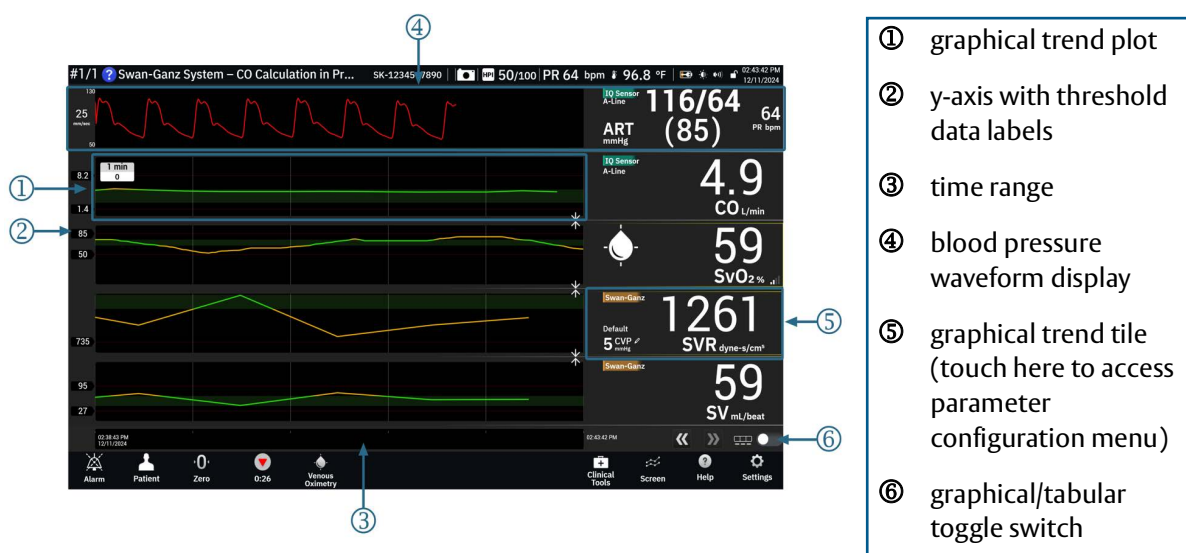

Figure 4-3 Graphical trend screen
The main features of the graphical trend screen are outlined in figure 4-3 and below.
The colors match those of the clinical target indicator (parameter tile outline) on the key parameter tiles in the graphical trend graph when targets are enabled for the parameter. The alarm limits for each parameter are displayed as numerical values on the graph y-axis. See ② in figure 4-3 on page 83.